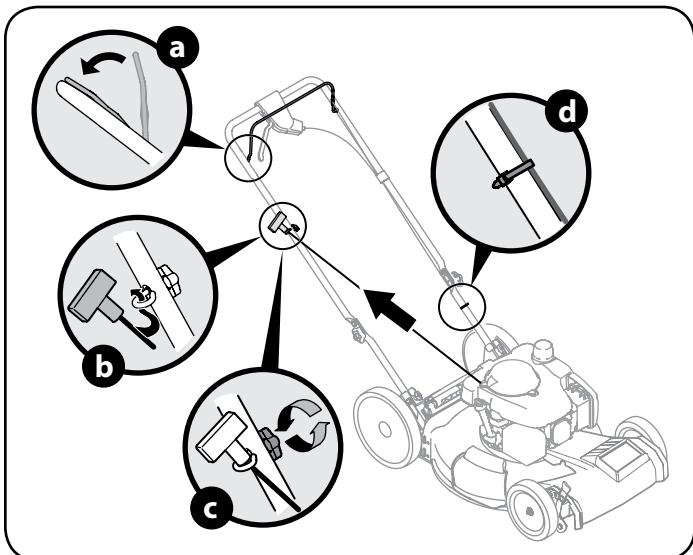

Figure 8
7. The rope guide is attached to the right side of the upper handle. Loosen the wing knob which secures the rope guide. Refer to Figure 8.
- Slowly pull starter rope handle from engine and slip starter rope into the rope guide. See Figure 8.
- Use cable ties provided to secure blade control and drive cables to lower handle as shown in Figure 8.